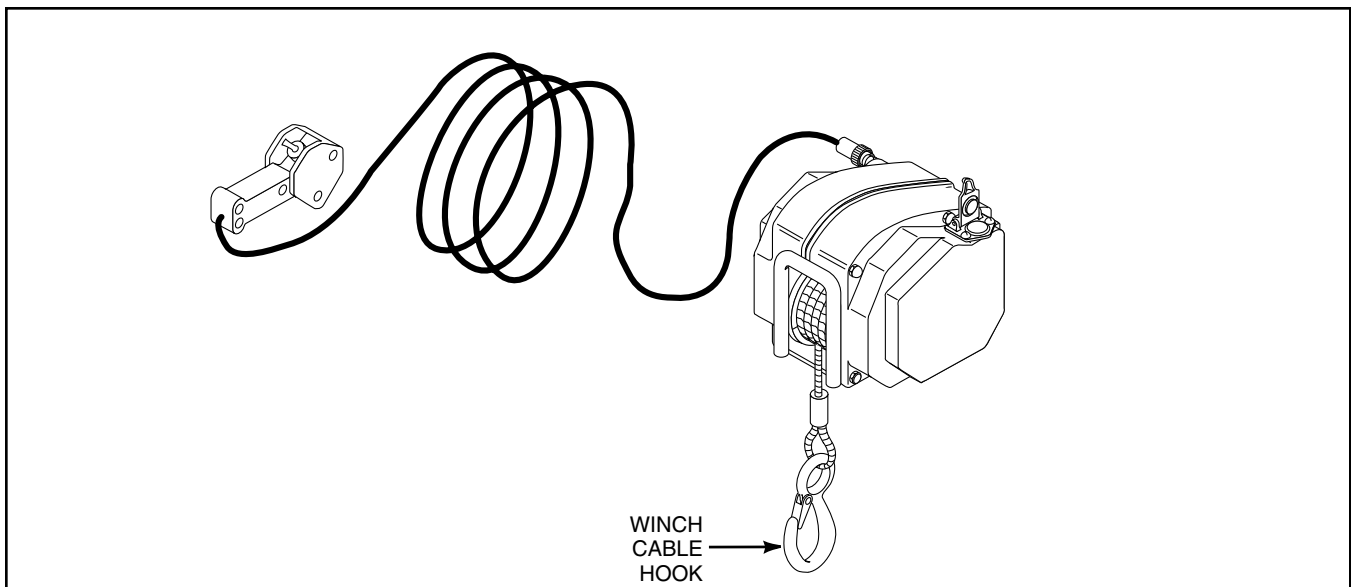

Figure 2 Operation Components
To unload the boat, refer to Figure 2 and follow the outlined procedures.
1. Attach the winch cable hook to the bow eye on the boat (See Figure 2).